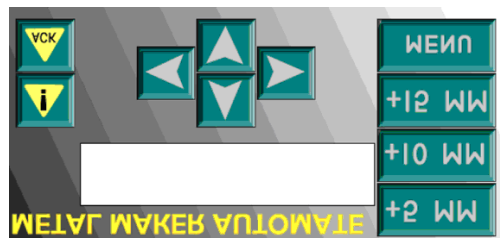

Figure 3-16 Reversed Panel Image
- Reversing the panel image (see Figure 3-16) orients the side of the faceplate with the ink from the printing process towards the TD 200C. The operator then touches only the plastic membrane and not the ink when pressing a button. Always reverse the panel image when printing on the blank faceplate material.